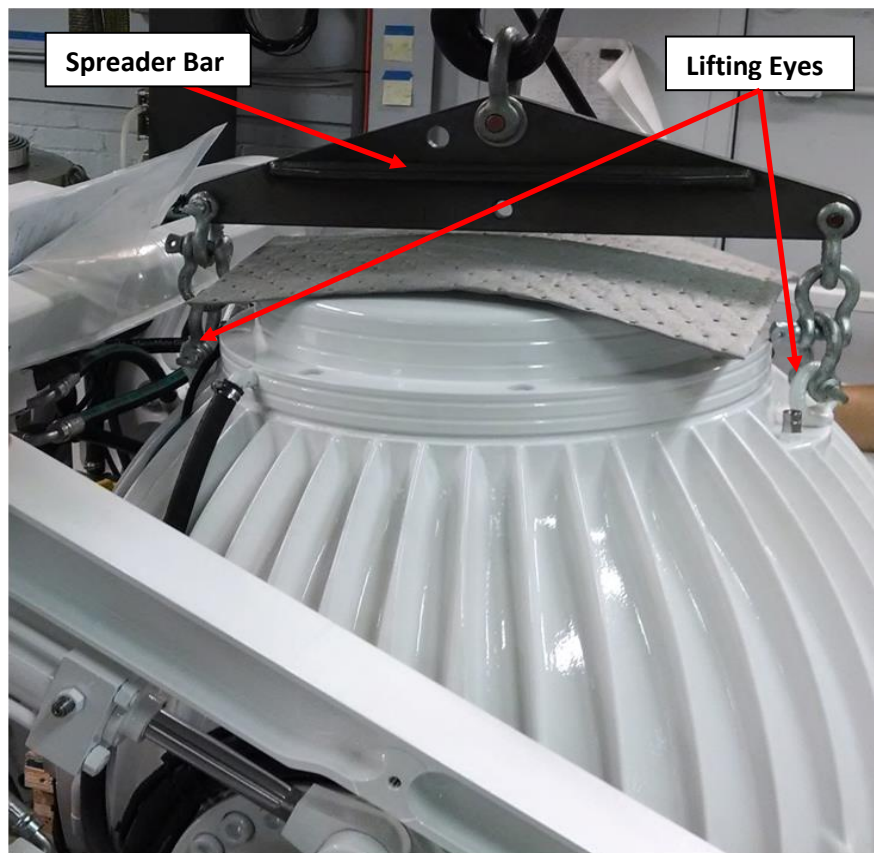

FIGURE 3 – LIFTING ARRANGEMENT
- 5) Attach spreader bar to the two lifting eyes located on the top of the Seakeeper enclosure. Stay clear of any other parts on the Seakeeper. The Seakeeper weighs 1,778 kg (3920 lbs). See Figure 3 below.